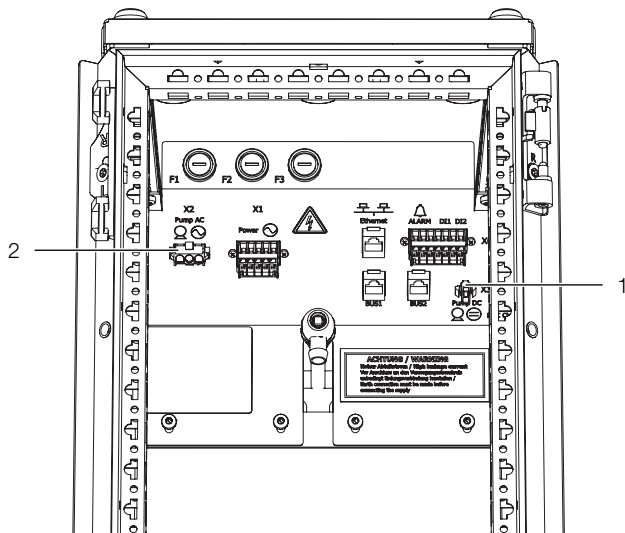

Fig. 63: Connection points
- Route the DC and AC cables of the condensate pump separated upwards to the connection sockets in the LCP (fig. 63).